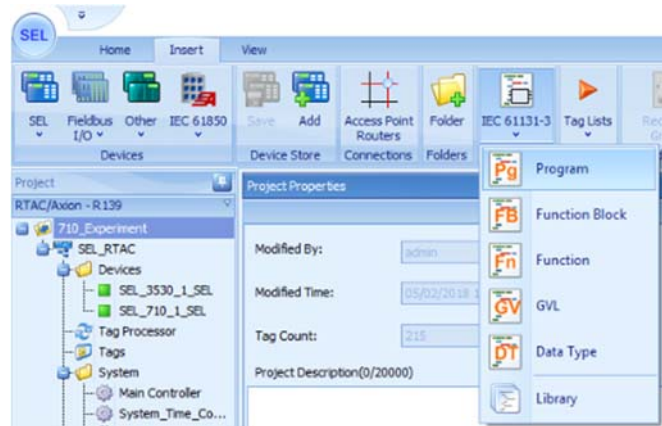

Figure 97: Create Program
97. On the Insert tab, click the User Logic dropdown and select Program (Figure 97). Select ST (structured text) and enter an appropriate name. (Figure 98).